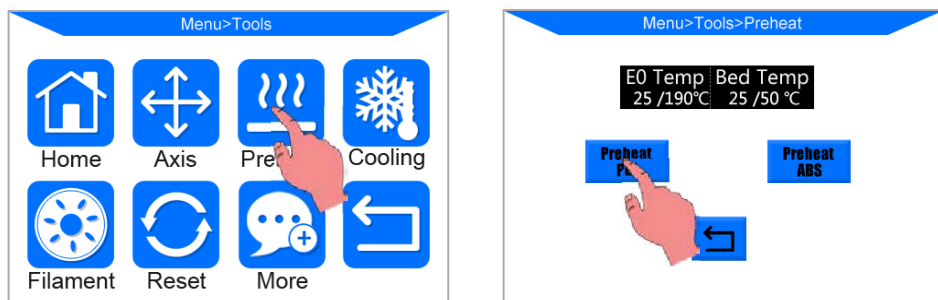

Figure 29
1. As shown below,click “Tools”--> “Preheat” --> “Preheat PLA (for example)” **Fig.29**.